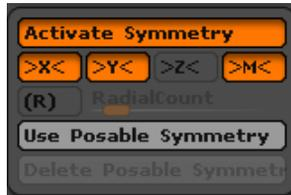

Figure 3-106 Symmetry *Figure 3-107* Alpha 19 applied to the door panels
- Expand the **Transform** palette. In this palette, choose the **Activate Symmetry** button; the **>X<** button is chosen by default. Next, choose the **>Y<** button, refer to Figure 3-106.